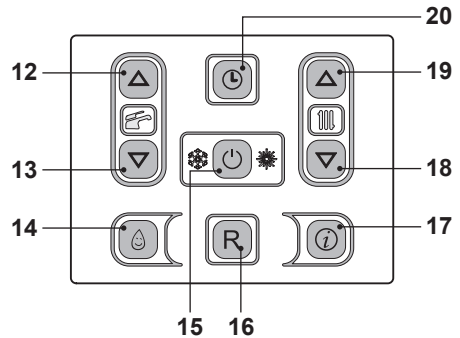

Fig. 2.9
- Press the key 15 for 2 seconds until the  symbol appears on the display Fig. 2.9.
The output temperature of C.H. water can be adjusted by pressing keys 18 (reduce) and 19 (increase) (Fig. 2.9) from a minimum of about 25°C to a maximum of about 85°C. Press one of the two keys once to display the "set" value. Press again to access the modification.
However, if the ambient temperature is not comfortable, the flow temperature of the heating plant can be increased or reduced by $\pm 15^{\circ}\text{C}$ by acting on keys 18 (reduce) and 19 (increase) (Fig. 2.9).
The heating temperature of the zone valve controlled by a thermostat is configured on the boiler control panel using keys 18 and 19 Fig. 2.9.